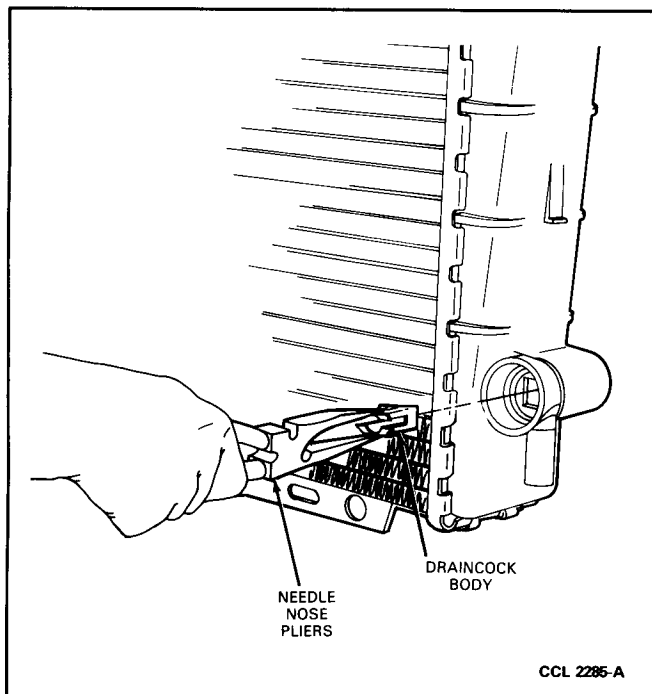

FIG. 7 Removing Draincock Body from Inlet Tank
2. Remove the draincock body from the radiator tank by squeezing the sides together with a pair of needle nose pliers (Fig. 7). Then, pull the body from the inlet tank.